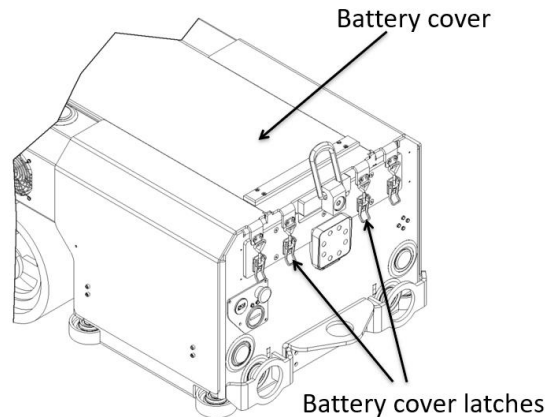

Figure 10 : Battery cover details
1. Remove the battery cover using the 2 latches located at the back of the machine (see Figure 10) to make sure that there is no temperature build-up and that the battery emanations will flow freely during the charging cycle.
1. Remove the battery cover using the 2 latches located at the back of the machine (see Figure 10) to have access to the batteries.
- a. Remove the battery cover using the 2 latches located at the back of the machine (see Figure 10) to have access to the batteries.